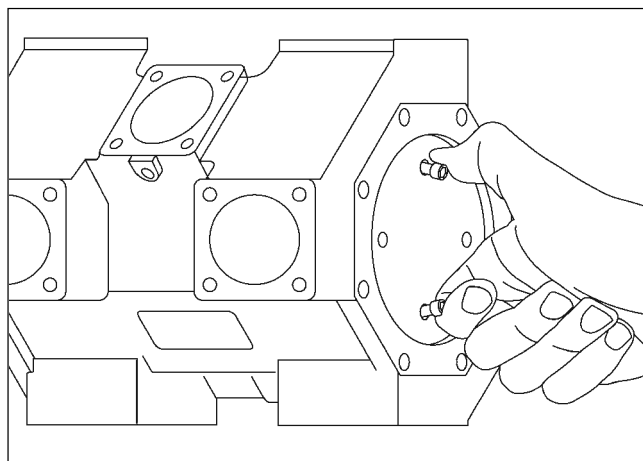

Figure 4.3
3. Loosen the piston cap screws and remove the piston cap as shown in figure 4.3 by pinching two loose screws together.
3. Remove the piston cap and shims by loosening and removing the piston cap screws holding the piston cap to the piston. Re-insert two loose screws as shown in figure 4.3. Using your fingers, pinch the screws together and pull the piston cap out of the cylinder.